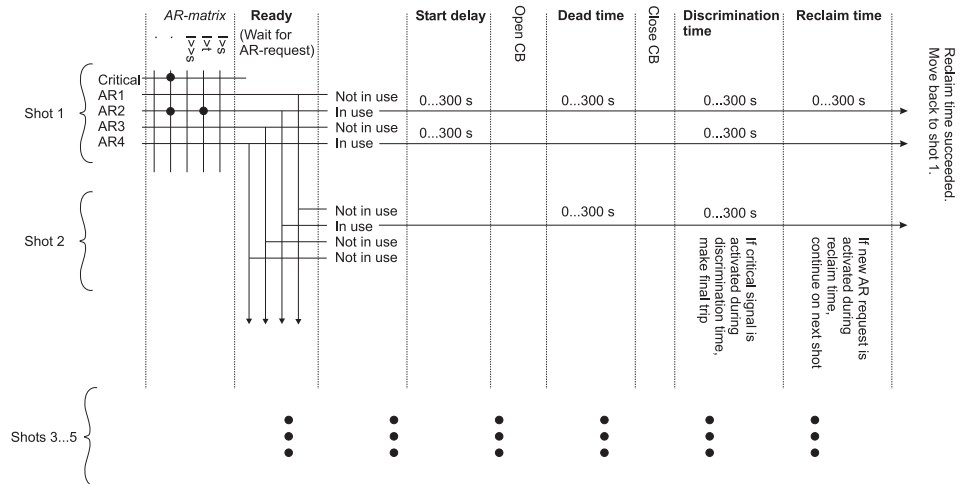

Figure 2.3.16-1. Auto-reclose matrix
2.3.16. Auto-reclose function (79)
The auto-reclose (AR) matrix in the following Figure 2.3.16-1 describes the start and trip signals forwarded to the auto-reclose function.